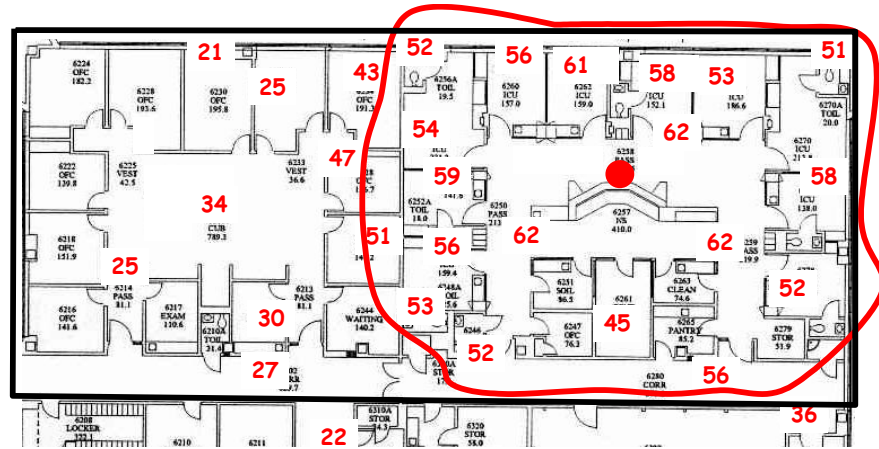

Figure 3-7 Floor Plan with Access Point and Throughput Results
- Mark the Floor plan with the actual Access Point location and the data throughput numbers. Use a different color for each Access Point placement. Try to establish where the 50 pps threshold is. See Figure 3-7.